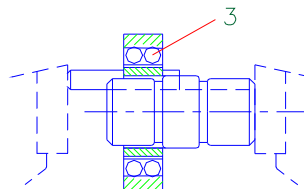

Fig.2
- 4) With the key in a vice or press, push it until the ball bearing butts against the race. (See Fig. 2)